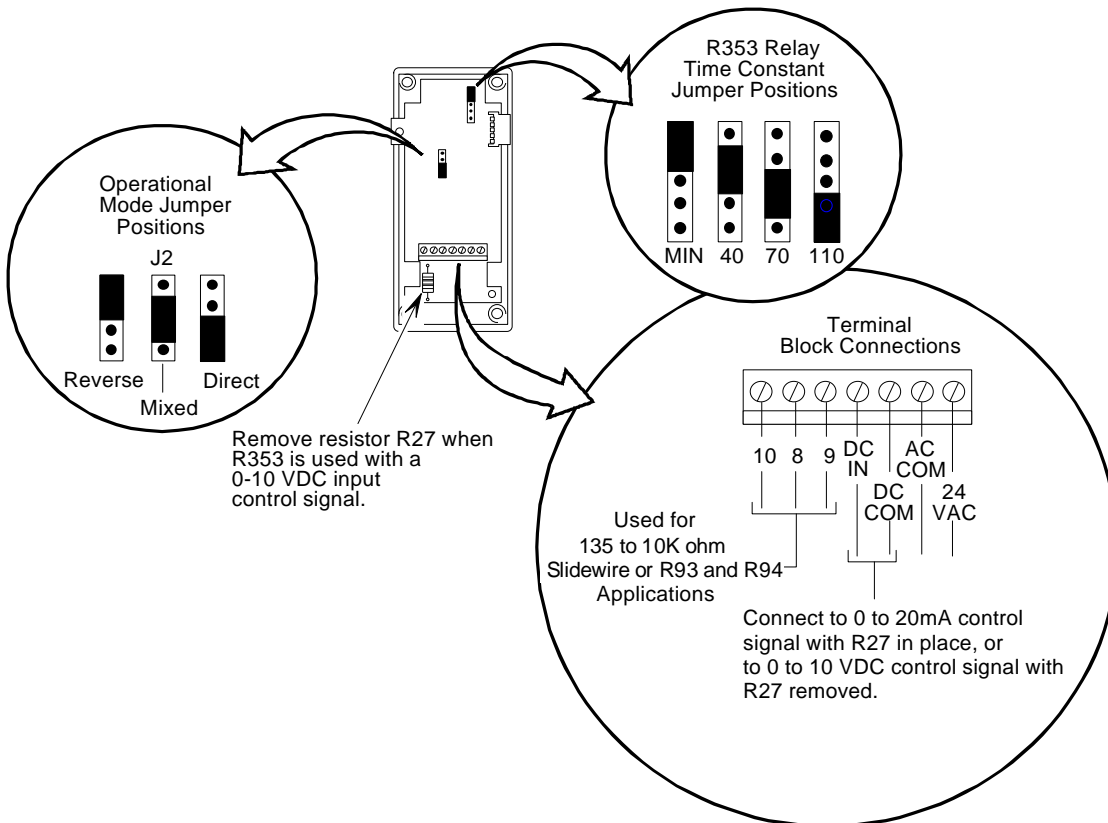

Figure 6: R353 Wiring Terminals and Jumper Selections
When using a 0 to 10 VDC controller, cut and discard resistor R27, which is located below the terminal block (Figure 6).
4. On the R353, set the mode of operation (direct, reverse, or mixed) by positioning the operational mode jumper located in the center of the circuit board (Figure 6). The R353 is shipped from the factory in the direct acting mode.
(Figure 6) and can be positioned for <1 (minimum), 40, 70, or 110 seconds. The jumper is factory set in the <1 position.